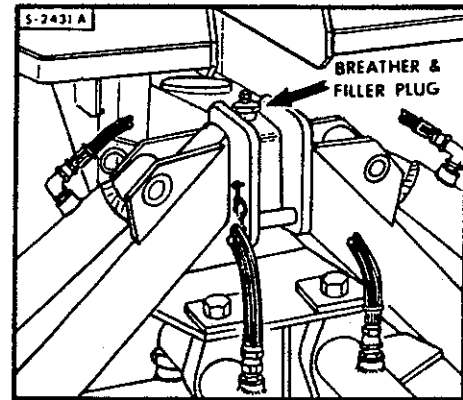

Fig. 29 — Breather and Filler Plug, Backhoe Reservoir.
The breather and filler plug are located at the top of the A-frame (Fig. 29). Always keep this area clean.
*Always clean around the filler plug (Fig. 29) before removing the plug and filling the reservoir.